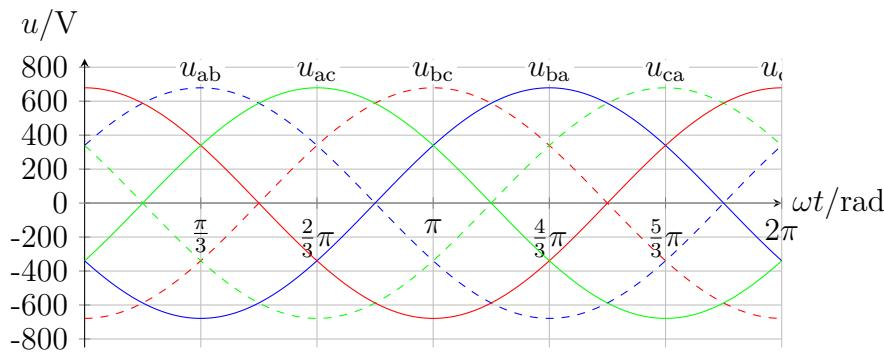

Fig. 8: Output voltage  $u_2(t)$  for  $\alpha_{\text{mot}}$ .
4.2 Sketch the converter output voltage  $u_2(t)$  at the firing angle  $\alpha_{\text{mot}}$  in Fig. 8. [1 Point]